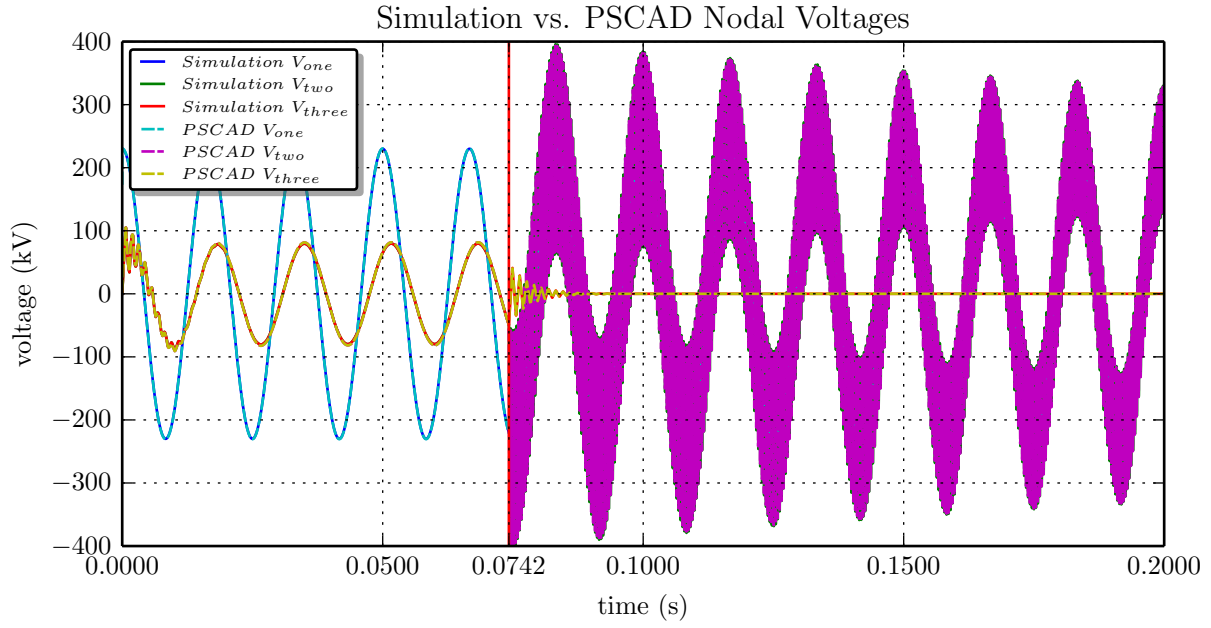

Figure 5: Plots of V_{one} , V_{two} , and V_{three} nodal voltages
- a) Plots of V_{one} , V_{two} , V_{three} for the simulation and PSCAD (Figures 5, 6, and 7).